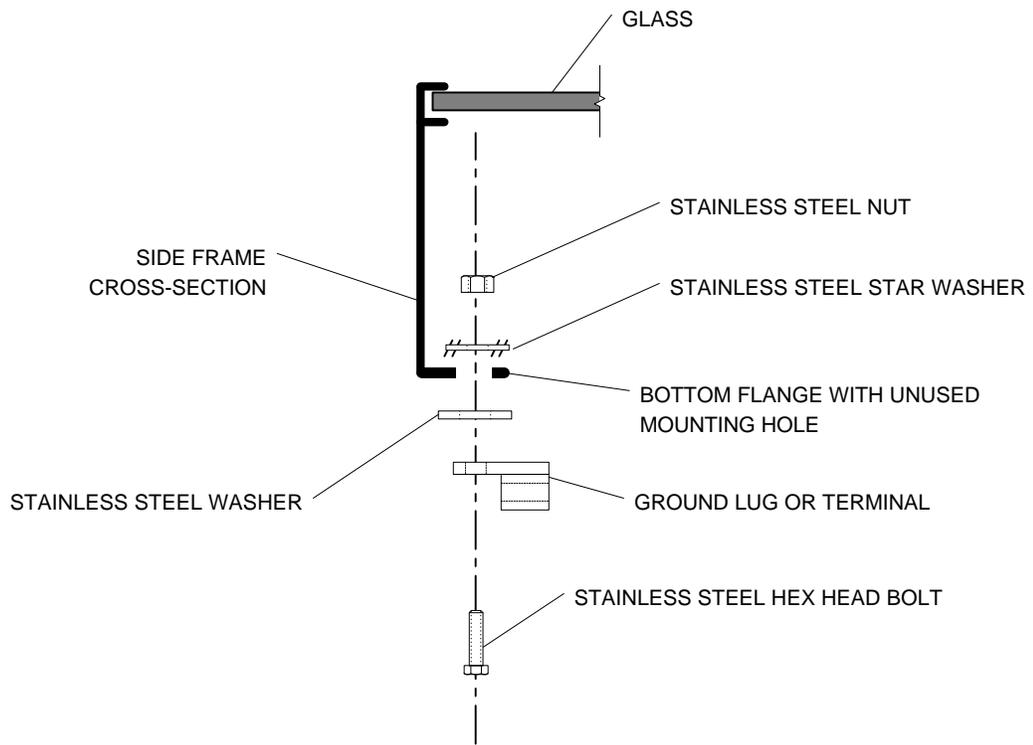

Figure 6 - Grounding a module frame using an unused mounting hole
- 4) **Use Existing Mounting Hole:** Grounding a module frame can also be accomplished by using an existing hole on the bottom flange as long as the hole is not being used for mounting the module. Hardware should be SS. This method requires the use of a star washer large enough to ensure contact is made through the anodization layer around the hole. See Figure 6 for an illustration.